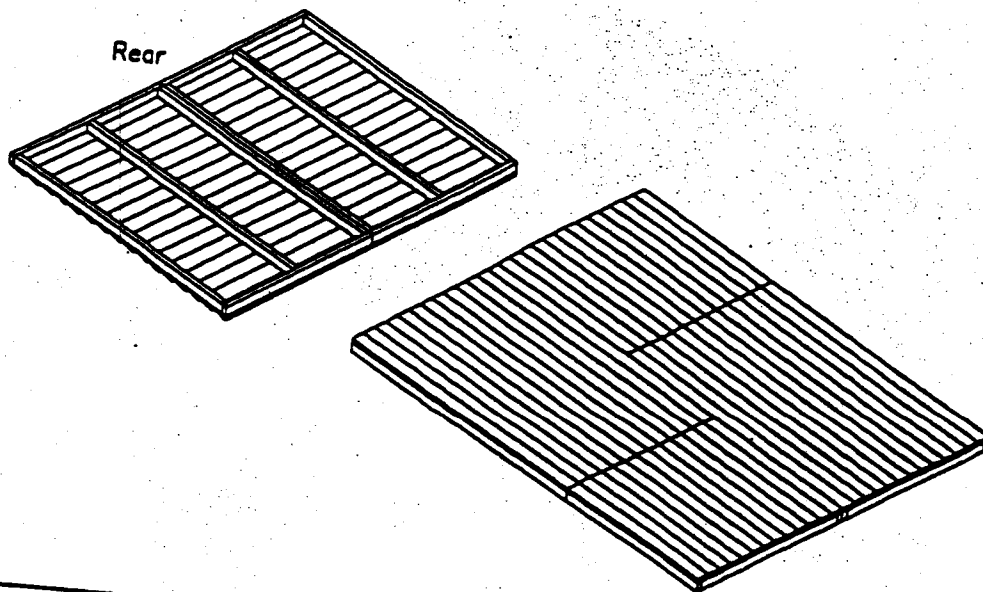

FIGURE C2
1. Begin by laying the wall panels around the floor deck. The wall panels must be identified and attached together to form each of the building faces. Beginning with the rear panels, attach both wall panels together as shown in the detail [see Figure C2].